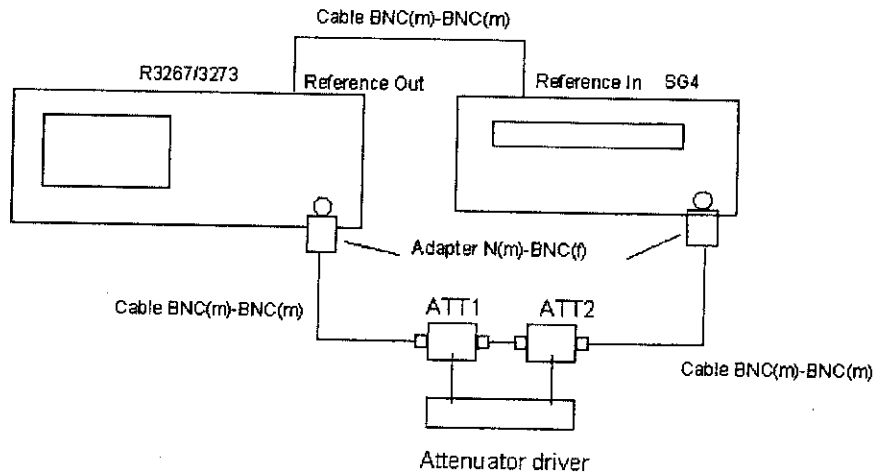

Figure 3-8 Setup for Scale Fidelity Test
1. Connect equipment as shown in Figure 3-8.